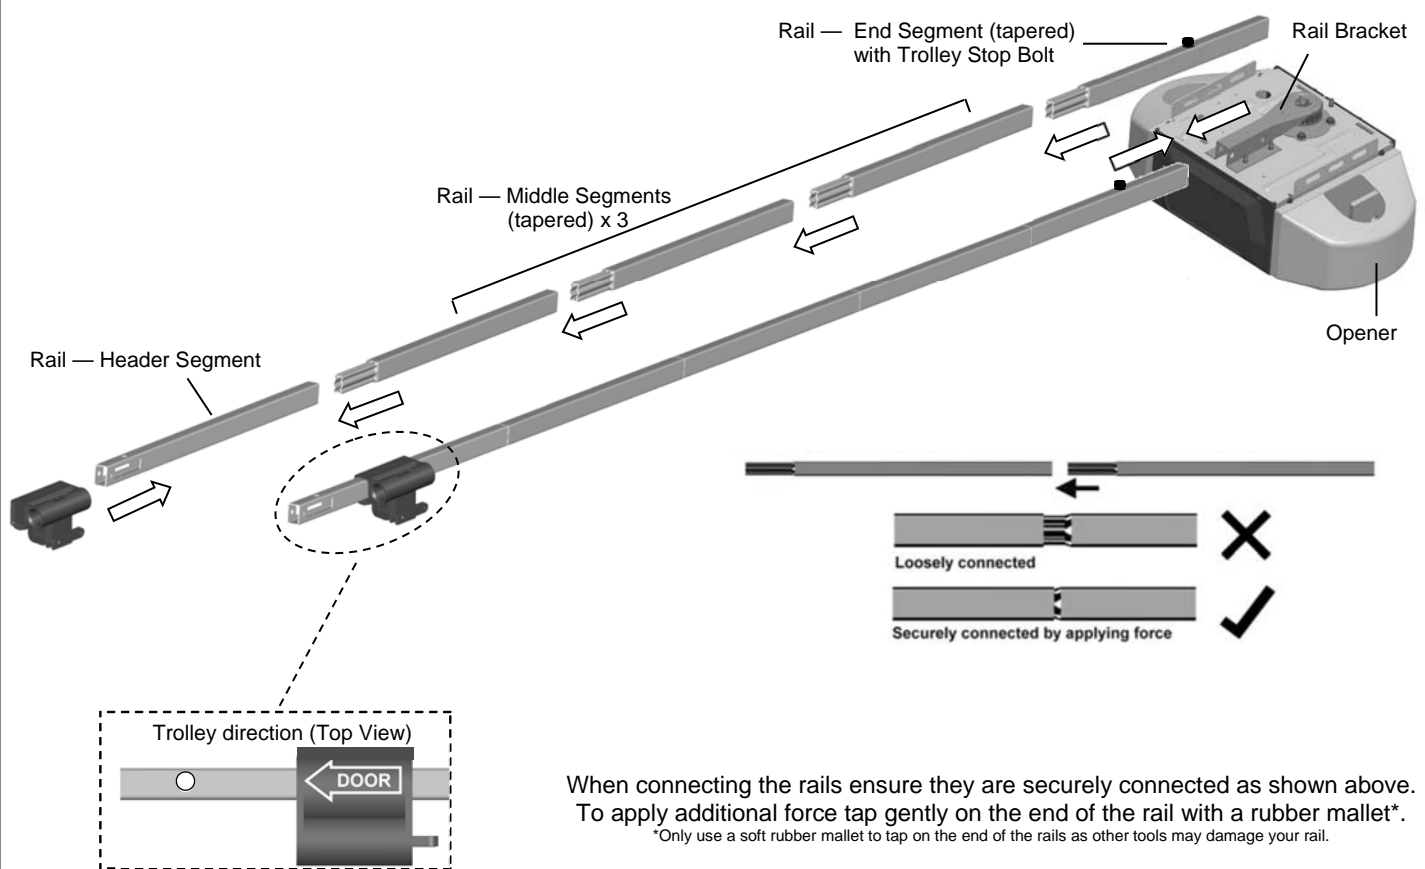

Fig.1
1. Prepare the rails as shown in Fig.1.